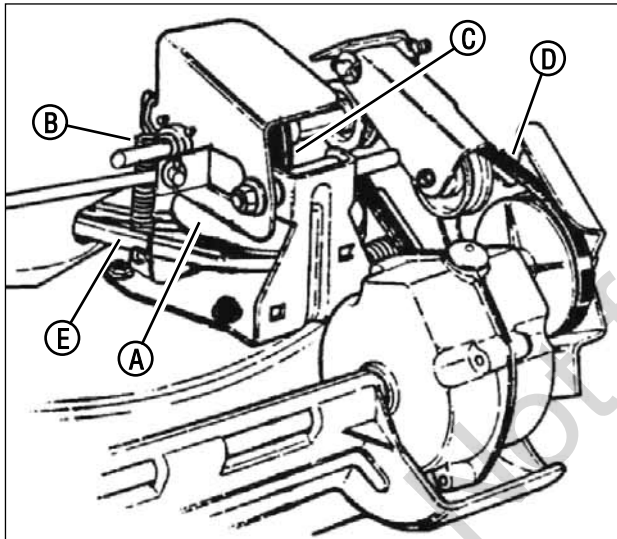

Figure 23: Wheel drive components
1. Grease on the drive disc (A, Figure 23) causing slippage.
2. Broken or disconnected drive spring (B).
3. Driven disc (C) is out of adjustment.
5. Worn Poly-V belt (D) or engine drive belt (E).